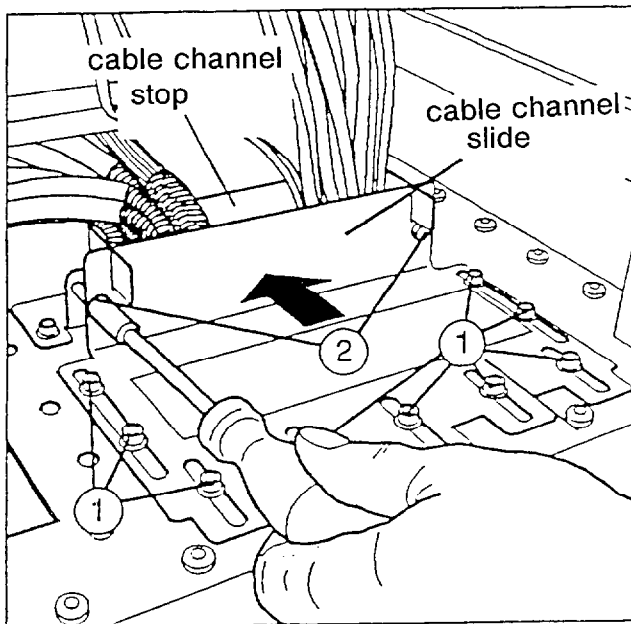

Fig. 3
- Preinstall the cable channel slide using 9 Allen screws M6x10 (1/Fig.3) and contact washers, and 2 hexagon screws M6x45 (2/Fig.3) (do not tighten screws yet).
- Press the slide with your hand in the direction of the arrow against the cable bunches (Fig.3) and fasten the screws loosely (2/Fig.3).
- Compress the cables with the screws (2/Fig.3) until the EMC cord and the cables are securely pressed together. Avoid any contact of the rider with the cable channel stop.
- Tighten the screws (1/Fig.3).